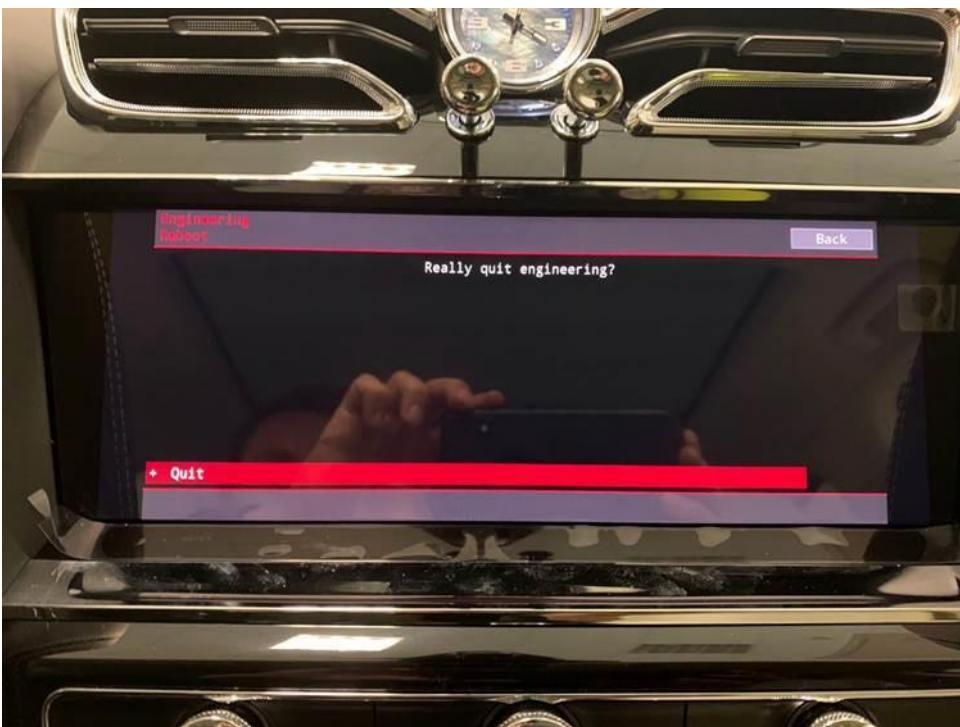

Figure 12
10. On the next screen select 'Quit' (Figure 12), the system will then reboot. Once the home screen is displayed, remove WT10612 and carry out an ignition cycle.